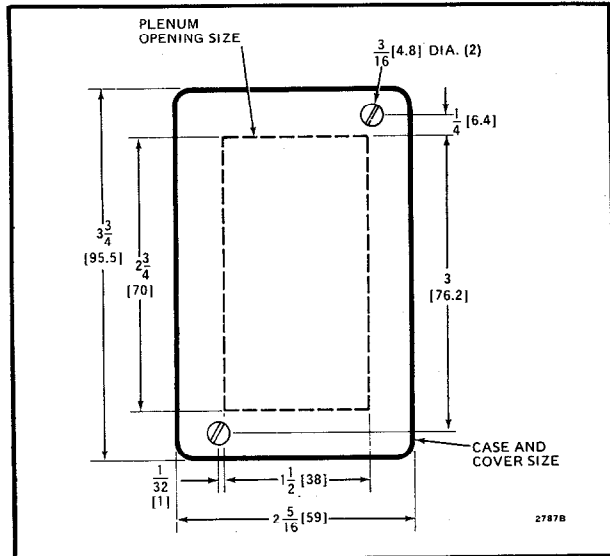

FIG. 2—MOUNTING DIMENSIONS IN INCHES [MIL-LIMETRES IN BRACKETS] FOR L4068A,E AND L6068A WITH CASE AND COVER.
1. Make opening in plenum. See Figs. 2 and 3 for dimensions. If modifying existing opening which is too small, enlarge it. If existing opening is too large, use an asbestos gasket to decrease hole size, or cover opening with a piece of sheetmetal and cut a new hole.